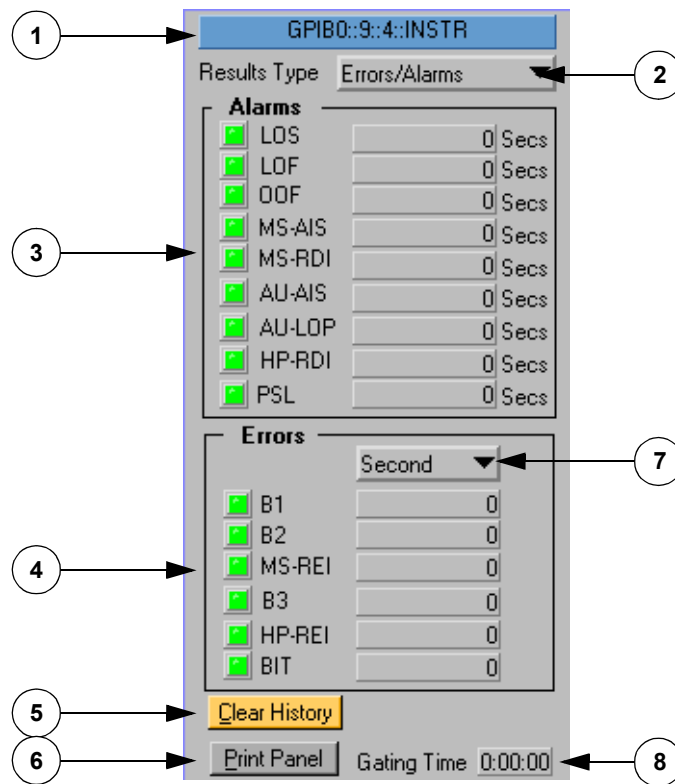

Figure 3-22. Error/Alarm Results
Each page of results contains four separate Results Panels. One Results Panel is highlighted for each Receiver in the system (identified by the GPIB address at the top of the panel). If the system contains more than four Receivers, click on the page Down button at the right hand side of the page to display the next four Receiver Results panels. Figure 3-22 shows the default Errors/Alarms Results Panel. The other results, are obtained by selecting from the **Results Type** pull down menu **(2)** in Figure 3-22. Select from the following:
- Errors/Alarms, see Figure 3-22.